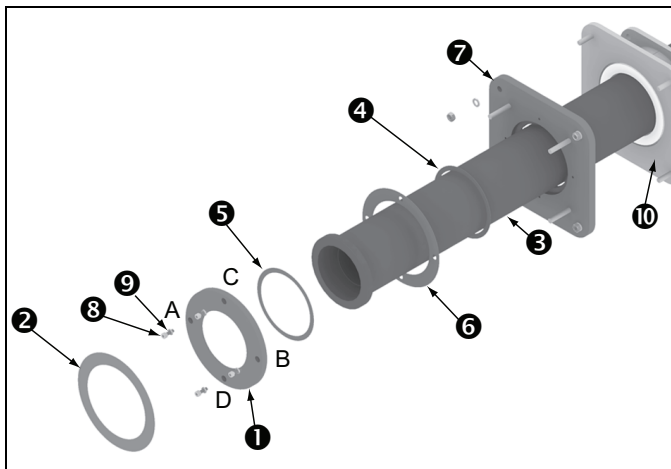

Figure 3.11
The horizontal ceramic tube should be mounted as follows, please refer to Figure 3.11 for all Item numbers:
- Using a hand wrench snug all bolts in the following order - A,B,C,D (see Figure 3.11)